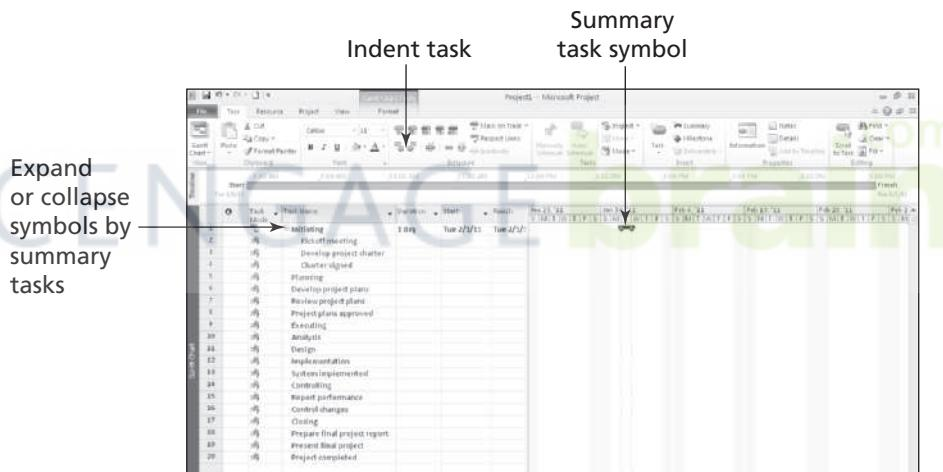

FIGURE A-19 Indenting tasks to create the WBS hierarchy
2. *Indent subtasks.* Click the **Indent task** button  on the Ribbon under the Schedule group of the Task tab (or press Alt + Shift + right arrow) so your screen resembles Figure A-19. After the subtasks (Tasks 2 through 4) are indented, notice that Task 1 automatically becomes boldface, which indicates that it is a summary task. A collapse symbol appears to the left of the new summary task name. Clicking the **collapse symbol**  will collapse the summary task and hide the subtasks beneath it. When subtasks are hidden, an **expand symbol**  appears to the left of the summary task name. Clicking the expand symbol will expand the summary task. Also, notice that the symbol for the summary task on the Gantt chart appears as a black line with arrows indicating the start and end dates.